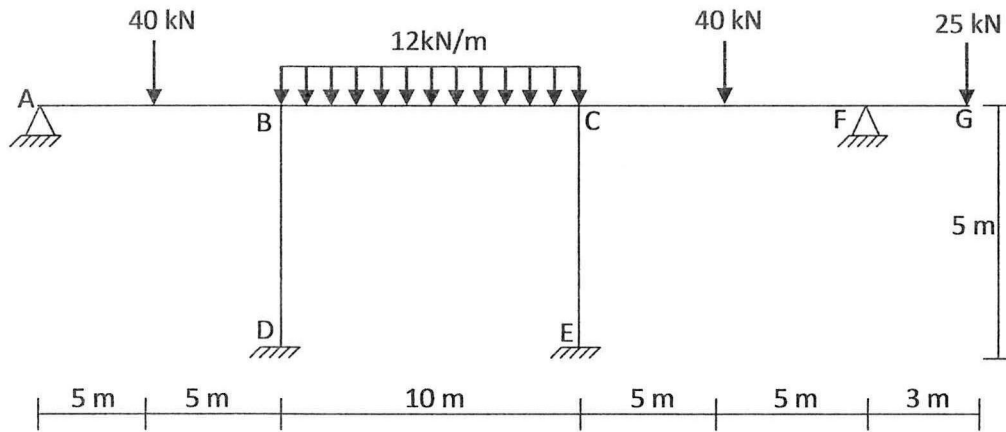

FIGURE Q2
- Q2** **Figure Q2** shows the frame which is subjected to uniformly distributed load of 12 kN/m along BC. Three point loads of 40 kN, 40 kN and 25 kN are acting on mid span of AB and CF and point G, respectively. Supports D and E are fixed and supports A and F are pinned. EI value is constant.